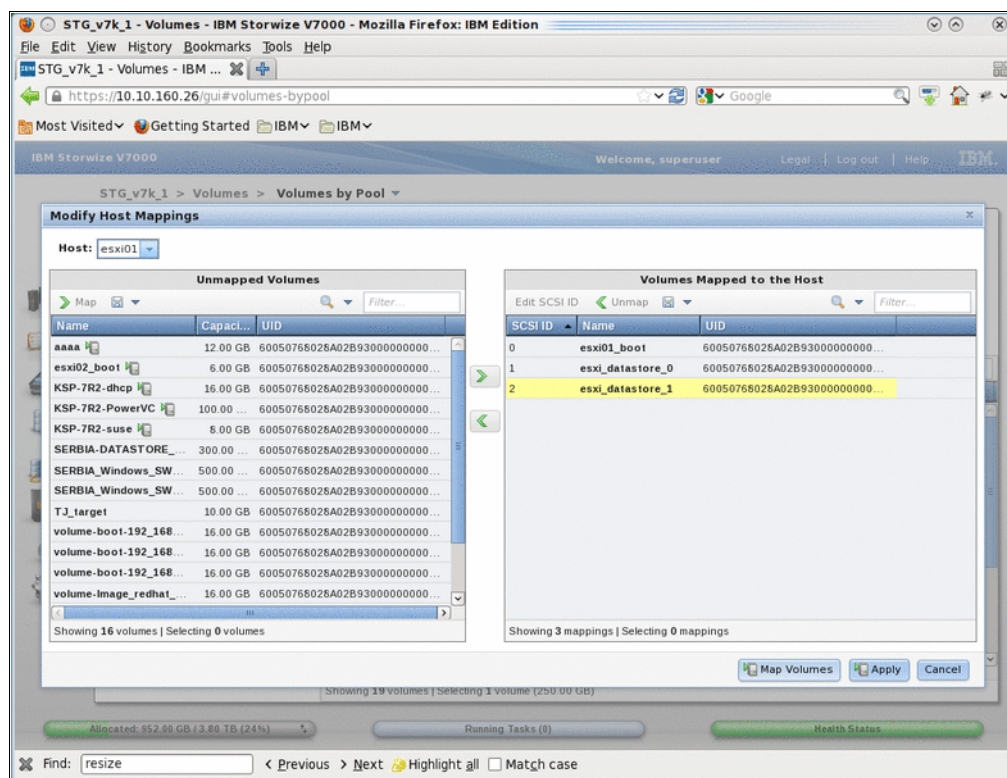

Figure 16-34 Correct mapping of the esxi_datastore_1 datastore
2. Choose **esxi01** from the pull-down menu. The volume is mapped to the host. Make sure that the correct LUN ID (ID 2) is set in the right pane (as shown in Figure 16-34) and click **Map Volumes**.